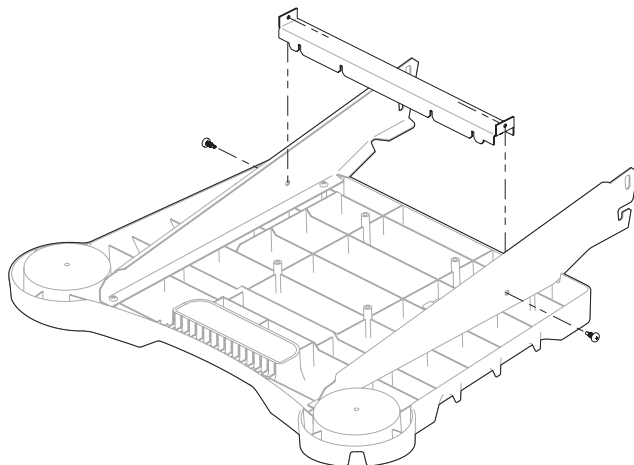

Figure 4
6. Hang the side brackets on the lower pins of the Bracket Attach Assembly. Tighten the two 10-16 x 1/2" Phillips screws from step 5. See Figure 4.